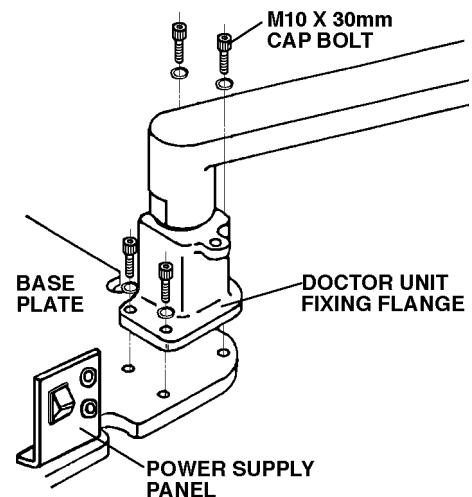

Fig.4-2 Mounting Doctor Unit
2. Mounting the Doctor Unit (Base Mount Type Fig.4-2)